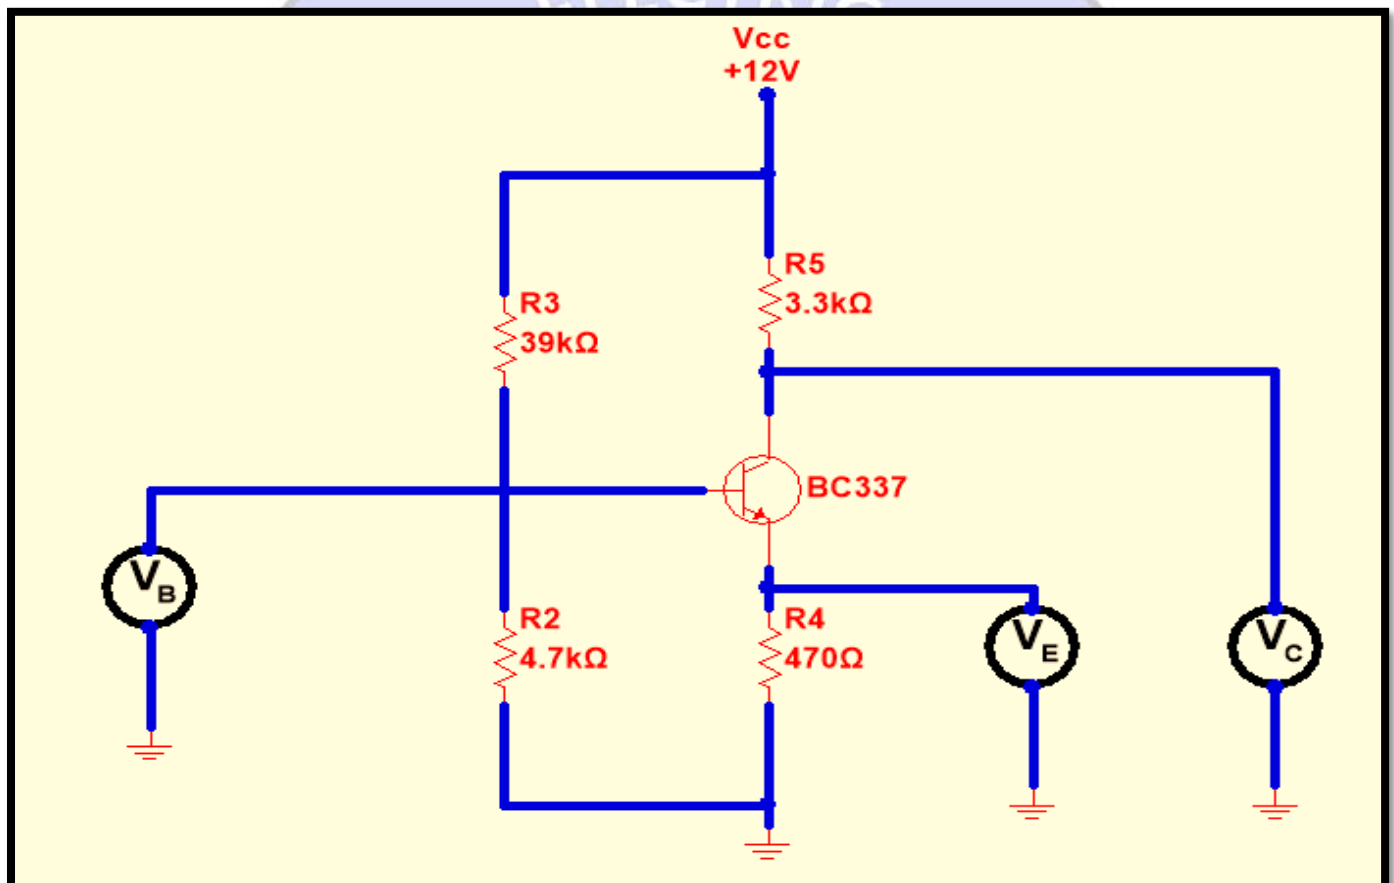

Figure 5: The DC Bias Circuit of the Common Emitter Amplifier
1. Connect the circuit shown in Fig.5 and measure the DC voltages  $V_B$ ,  $V_E$ , and  $V_C$ . Try to measure the DC current gain of the BC337 transistor  $h_{FE}$  using a multi-meter. Tabulate your results as illustrated in Table-1.